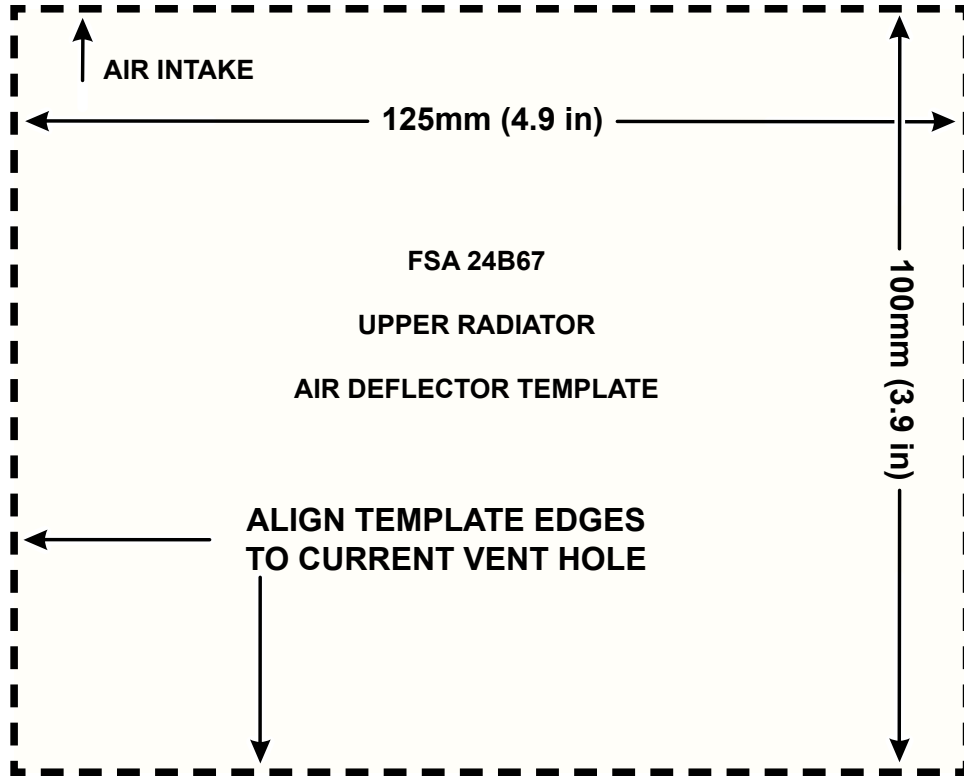

FIGURE 11
16. This Field Service Action is complete. See Figure 11.